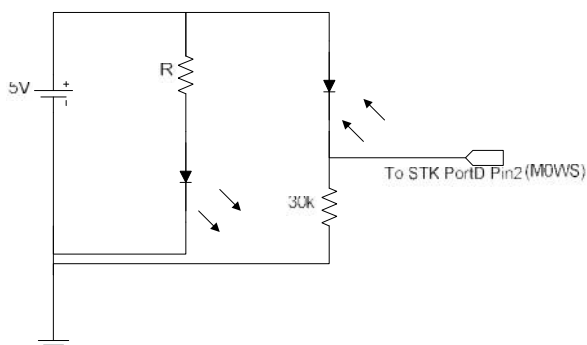

Figure 2
3. Connect the circuit shown in Figure 2 on the breadboard.